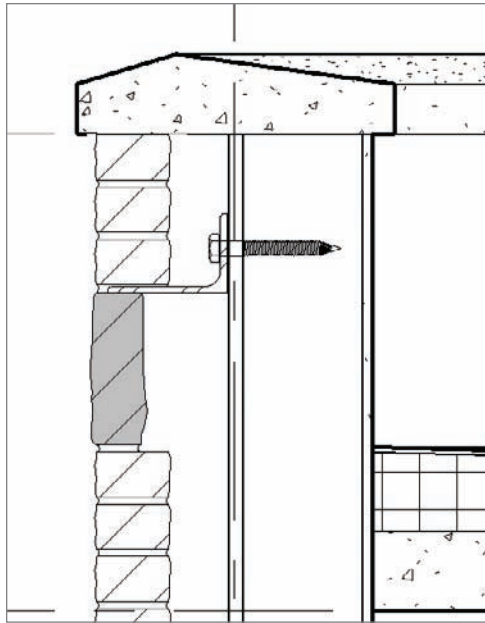

FIGURE 12.39 Inserting the lag bolt
4. Insert the lag bolt into the angle as shown in Figure 12.39.